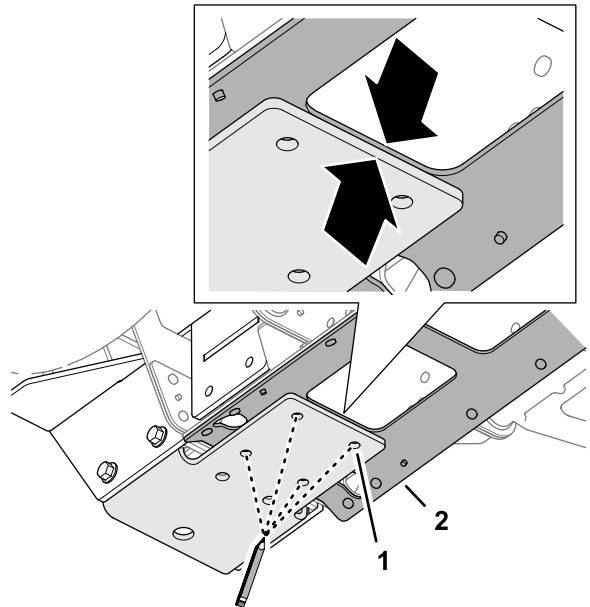

Figure 50
3. Align the rear-most edge of the bottom bracket with the edge of the access opening in the center-channel plate (Figure 50).
4. Mark the 4 hole locations of the bottom bracket onto the center-channel plate as shown in Figure 50.